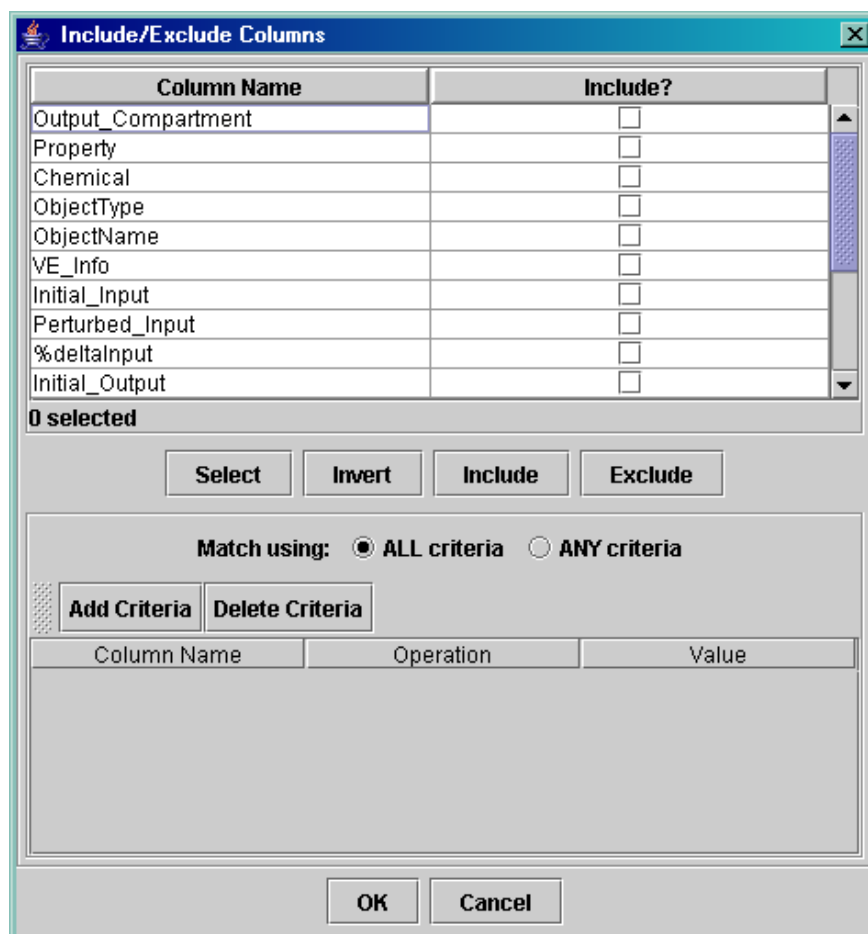

Figure 5. Include/Exclude Columns Dialog
3. In this dialog, select the data column of interest by clicking on the **Select** button. The **Include/Exclude Columns** dialog will appear (Figure 5). Note that the selection mechanism used in this dialog, explained next, is used repeatedly in the table application.
- Click on the Show/Hide Columns icon  in the toolbar. The **Show/Hide Columns** dialog will appear. This dialog looks very similar to the **Include/Exclude Columns** dialog in Figure 5.